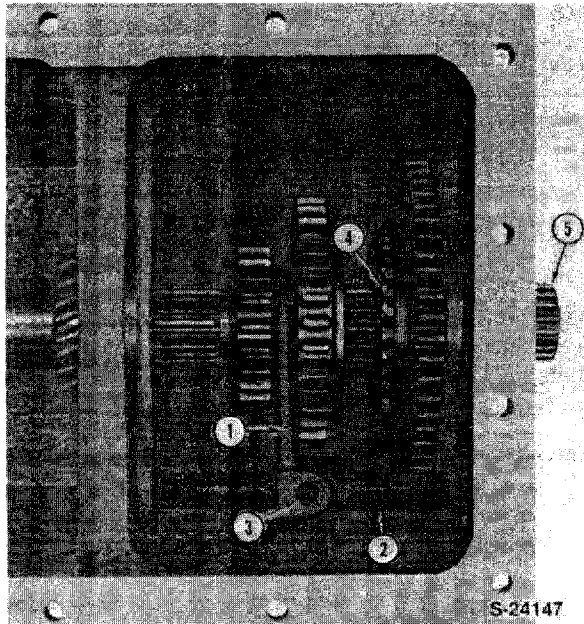

Figure 140
NOTE: The detent spring and ball are located in the fork on the underside of the rail, Figure 140. Use care when removing the rail as the spring and ball will be expelled with considerable force when released. Cover the shift fork with a shop towel to contain the spring and ball while removing the shaft.
1. Slide the snap ring (4) forward on the countershaft, Figure 140.
3. Withdraw the countershaft (5), Figure 140, rearward out of the case.